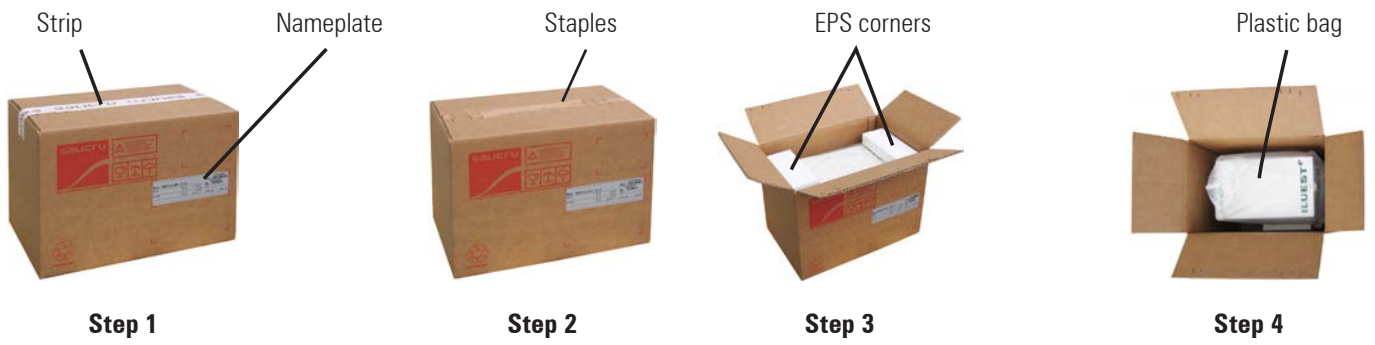
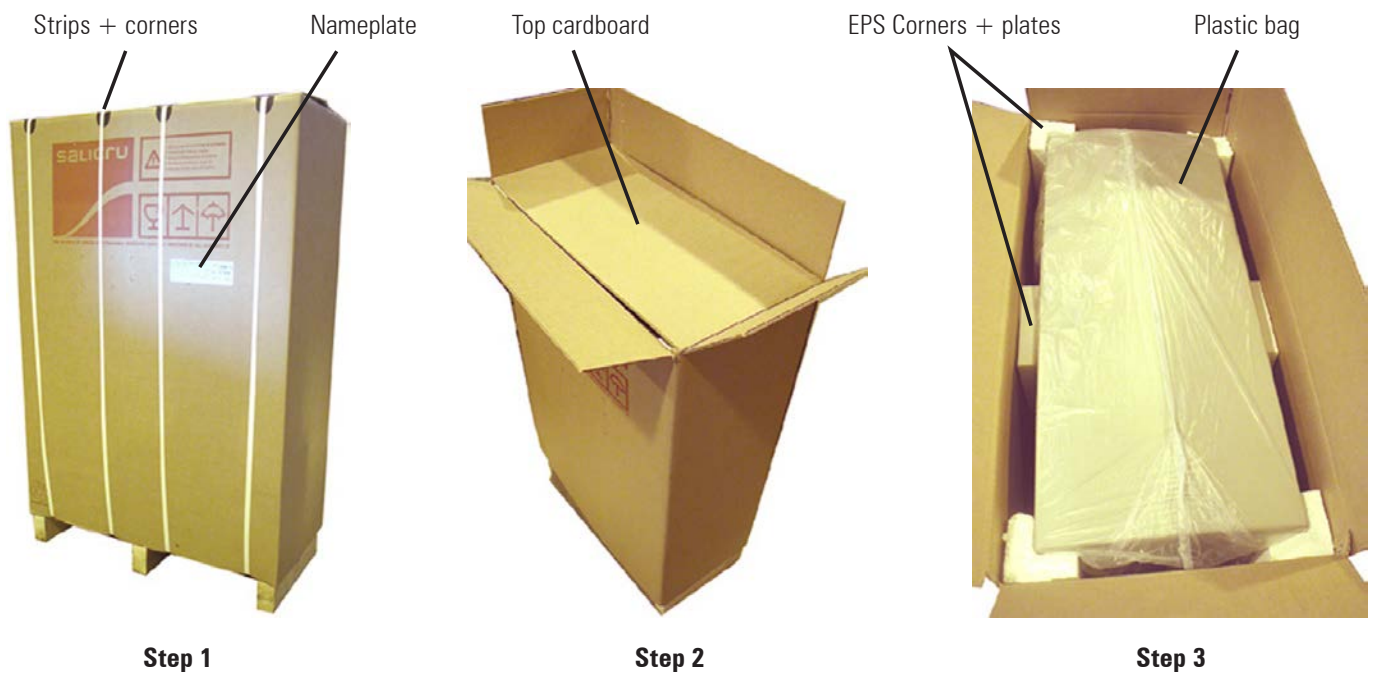

Fig. 12. Unpacking process for module (OEM).
Fig. 13. Unpacking process for indoor (T) and outdoor (I) equipments.
- Unpacking procedure of the equipment is described in section 4.2. and illustrated by figures 12 and 13.
- Check the data in the nameplate of the packing is the required by the installation (see figures 12 and 13).
- Packing of the equipment has (see figures 12 and 13):
- Cardboard case, corners of expanded polystyrene (EPS) or polystyrene foam (PE), polyethylene bag. All parts are recyclable, so if they are gone to be disposed, do it in accordance with the current regulations. It is recom-mended to keep the packing in case it were needed in future.
- Wooden pallet, cardboard or wooden (under request only) case, expanded polystyrene (EPS) or polystyrene foam (PE), polyethylene bag and polyester strips. All parts are recyclable, so if they are gone to be disposed, do it in accordance with the current regulations. It is recommended to keep the packing in case it were needed in future.
- Follow the steps of figures 12 and 13 for a correct unpacking of the equipment. Although pictures of figure 13 shows an outdoor **(I)** equipment only, proceed in the same way for indoor format **(T)**:
- Remove both corners and/or expanded polystyrene (EPS) plate or polystyrene foam (PE).